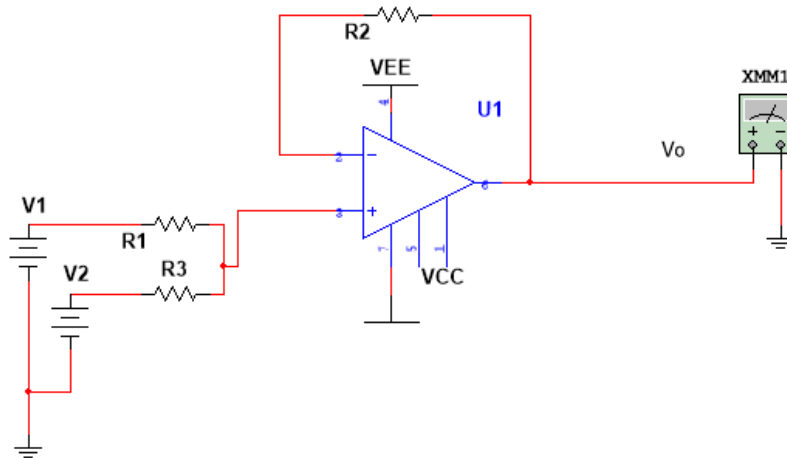

Fig 2.1: Op-amp as inverting Adder
2. The circuit is set-up as shown in figure 2.1. The supply voltage $\pm V_{CC}$ is set at $\pm 12V$.